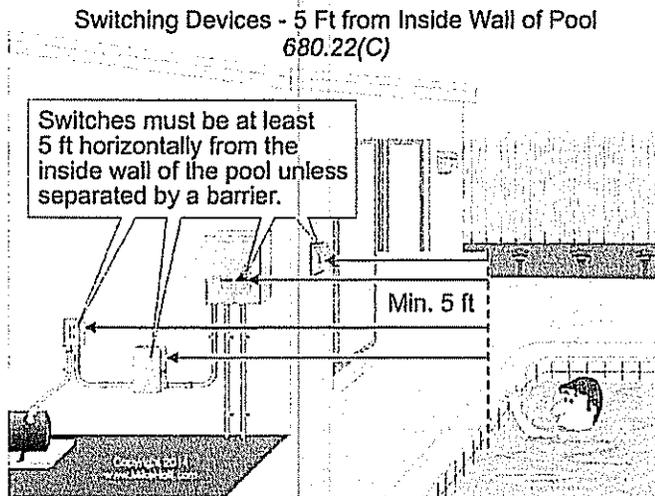

Figure 680–28
**(C) Switching Devices.** Circuit breakers, time clocks, pool light switches, and other switching devices must be located not less than 5 ft horizontally from the inside walls of a permanently installed pool, outdoor spa, or outdoor hot tub unless separated by a solid fence, wall, or other permanent barrier, unless the switching device is listed as being acceptable for use within 5 ft. Figure 680–28